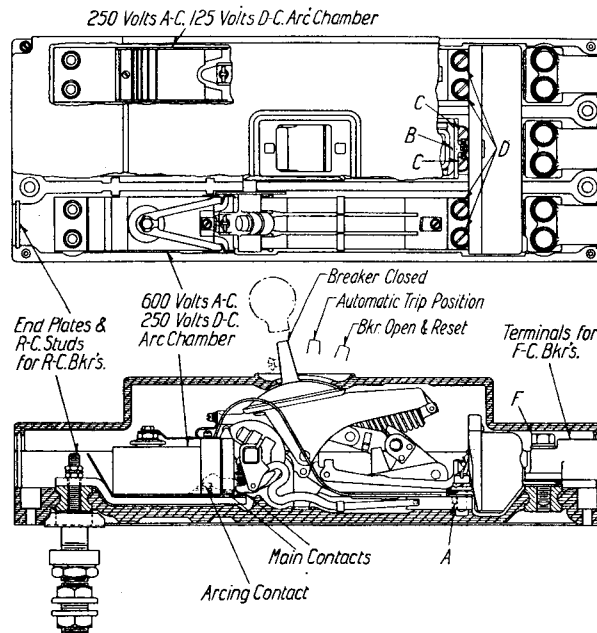

FIG. 3
Place trip unit in the frame as shown in Fig. 3, making sure that the locating lug (A) of the trip unit bracket projects into the hole (B) provided for it, then